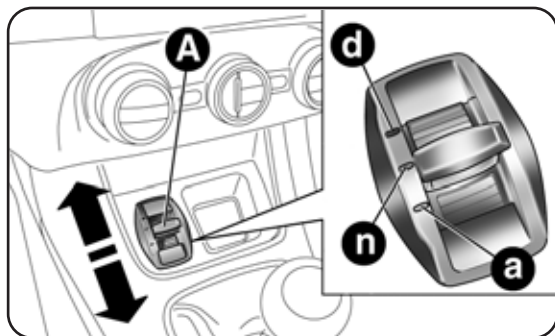

fig. 80
This device allows, using switch A-fig. 80 (on the central tunnel), three response modes to be selected according to driving style and road conditions:
When the lever A-fig. 80 is moved to "d" position, the activation of "Dynamic" mode is confirmed by a temporary variation in the brightness (flashing) of the instrument panel.
Switch A-fig. 80 is a monostable switch, i.e. it always remains in the central position. The selected driving mode is indicated by the corresponding LED coming on in the panel and by an indication on the re-configurable multifunction display, as illustrated below:
Move lever A-fig. 80 upwards (to the letter “d”) and hold in this position for 0.5 seconds until the corresponding LED lights up or the word “Dynamic” appears on the display (see figures). The switch A will go back to central position after having been released.
Move switch A-fig. 80 downwards (to the letter “a”) and hold in this position for 0.5 seconds until the corresponding LED lights up or the word “All Weather” appears on the display (see figures).
To disengage “All Weather” mode and return to “Normal”, carry out the same procedure described for “Dynamic” mode, however moving lever A-fig. 80 to “a”.
- In the event of system failure or a fault with lever A-fig. 80, no driving modes can be selected. The display will show a warning message.